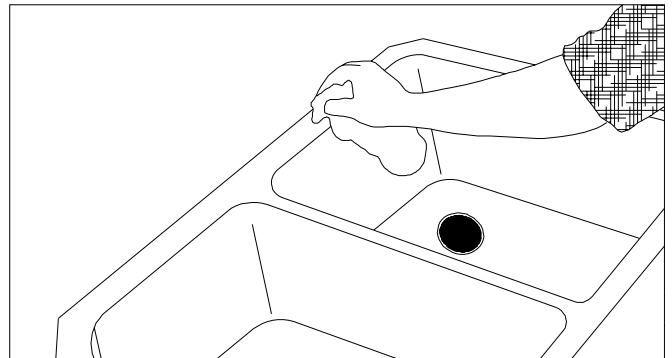

Figure 36A
- Make sure the surface is smooth, clean, and free of defects. (FIG. 36A)